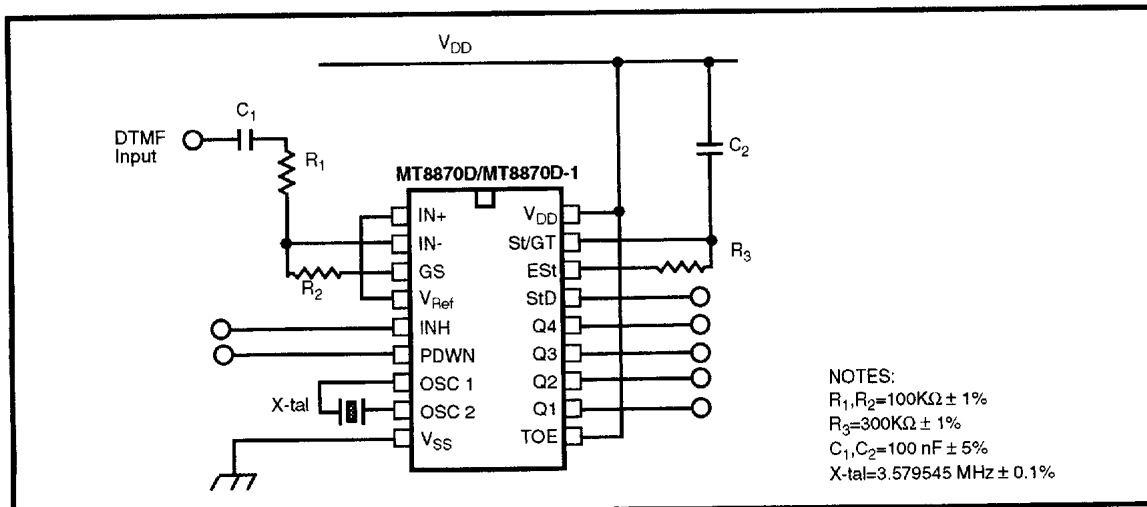

Figure 10 - Single-Ended Input Configuration
**MT8870D AC Electrical Characteristics** -  $V_{DD}=5.0V \pm 5\%$ ,  $V_{SS}=0V$ ,  $-40^{\circ}C \leq T_O \leq +85^{\circ}C$ , using Test Circuit shown in Figure 10.
**MT8870D-1 AC Electrical Characteristics** -  $V_{DD}=5.0V\pm 5\%$ ,  $V_{SS}=0V$ ,  $-40^{\circ}C \leq T_O \leq +85^{\circ}C$ , using Test Circuit shown in Figure 10.
12. Referenced to Fig. 10 input DTMF tone level at -25dBm (-28dBm at GS Pin) interference frequency range between 480-3400Hz.
**AC Electrical Characteristics** -  $V_{DD}=5.0V\pm 5\%$ ,  $V_{SS}=0V$ ,  $-40^{\circ}C \leq T_o \leq +85^{\circ}C$ , using Test Circuit shown in Figure 10.